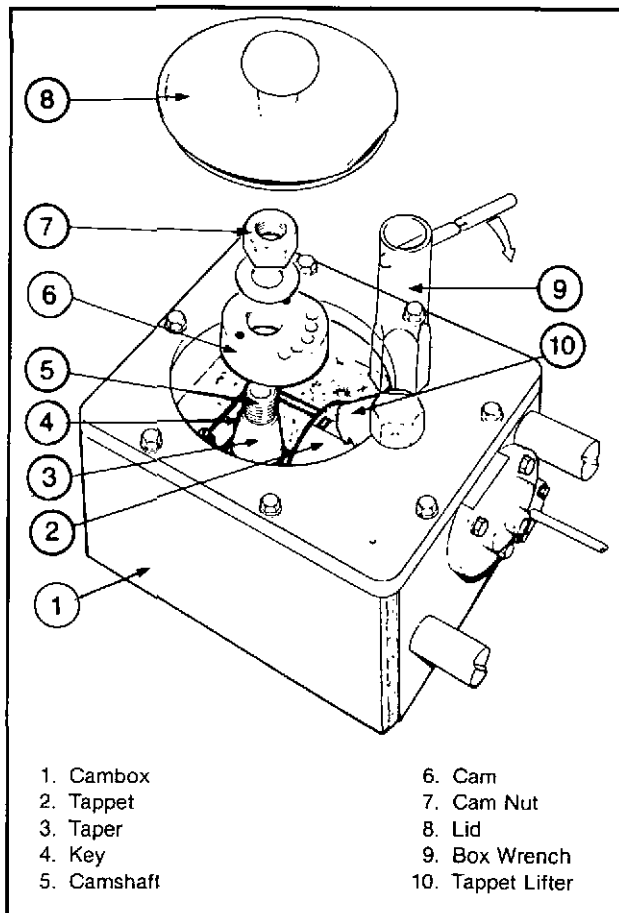

Fig. 2-49. Install an injector cam in the cambox
5. Move the clamping control handle to the unclamp position, 20, Fig. 2-48. Remove the transparent cam box lid. Rotate the tappet away from the camshaft. Use the box wrench and T-bar, Fig. 2-49.